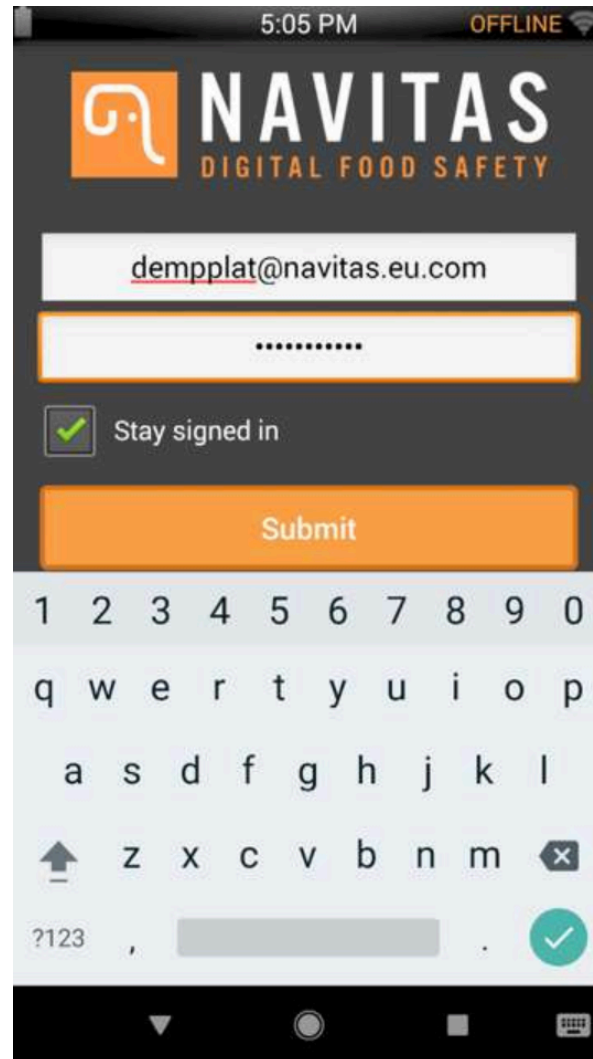

Fig. 11 – Entering credentials to log into Smart Probe
1. Login to the application enter your email or username and password and tap Submit (see fig. 11).